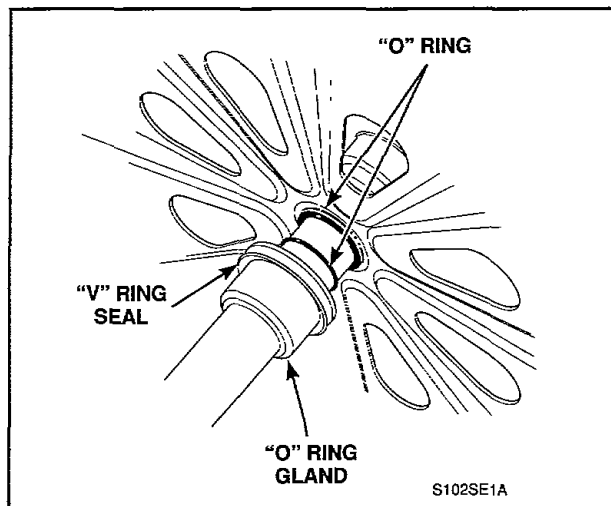

Figure 45
- q. Remove "O" ring gland, "V" ring seal and two "O" rings from cylinder shaft, *Figure 45*.
- Remove "O" ring gland, "V" ring seal and two "O" rings from cylinder shaft, *Figure 45*.